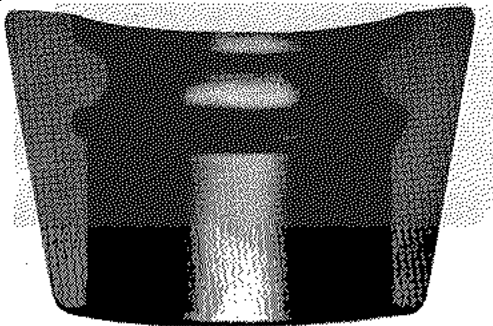

Fig.2-20-Valve Spring Seat Lock
4. Examine the valve locks, Fig. 2-20, for signs of excessive wear on the upper portion of the: bead and for evidence of excessive fretting in the ground diameter which engages the valve stem. If these conditions exist, the locks should be replaced.